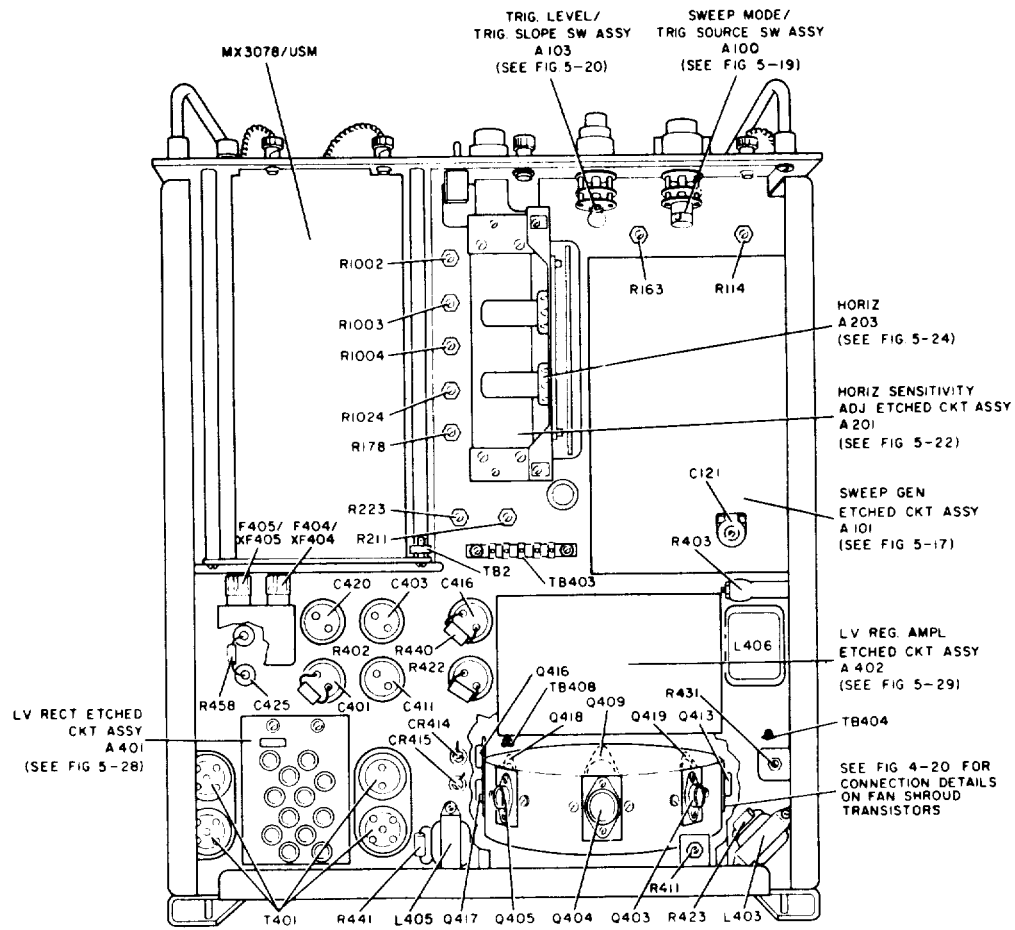

Figure 5-10. Bottom View, Location of Parts
(27) Remount assembly of circuit boards A201 and A203. Use 6-32 x 3/4 inch screws and #6 internal-tooth lockwashers (see figure 5-10).
(28) Route the Orange and white/orange/ yellow (or yellow/orange) wires (disconnected in step 20) through S1001 switch wafer D to wafer B in place of wires with corresponding colors supplied on replacement switch. Connect the routed wires to wafer B terminals in place of supplied wires.